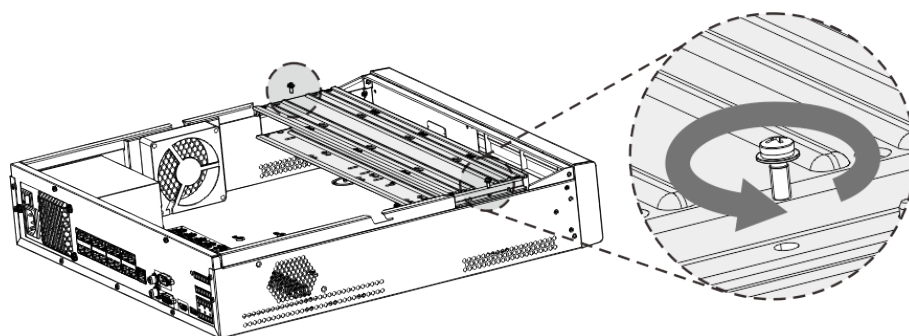

Figure 3-10
- 2U device has two HDD brackets. For the way to remove the brackets, see Figure 3-10.